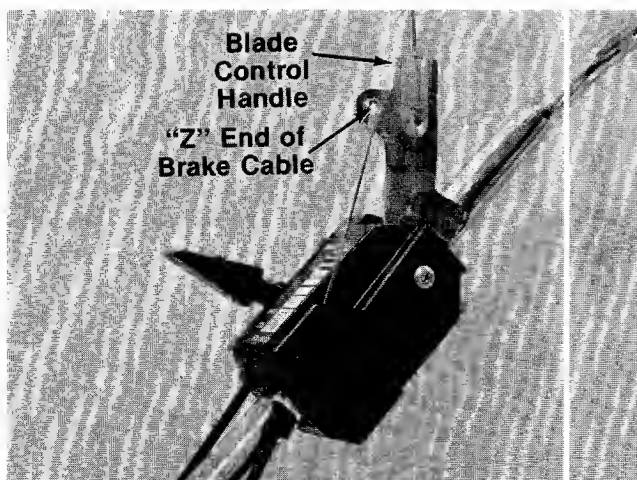

FIGURE 8.
6. Snap the plastic fitting on the end of the cable into the throttle control housing. Hook the "Z" end of the brake cable into the hole in the blade control handle. See figure 8. If additional slack is needed in order to hook the cable into the handle, proceed as follows.